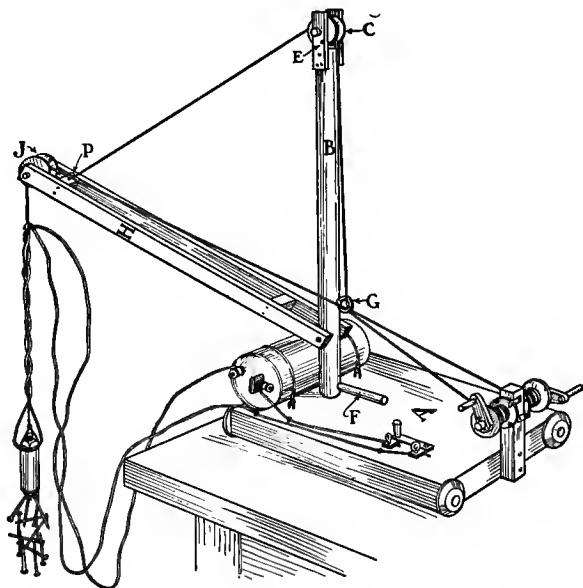
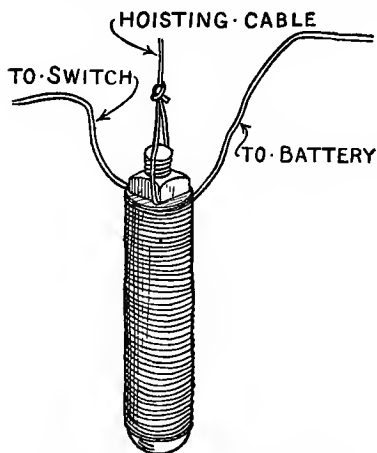

FIG. 267. — An Electro-Magnet Derrick. (See Frontispiece.)
FIG. 268. — The Electro-Magnet. (For details see Figs. 253-255.)
An **Electro-Magnet Derrick** like the one shown in Fig. 267. (See also photograph in *Frontispiece*.) Lots of fun
The **Electro-Magnet** is shown in Fig. 268, and Figs. 253 to 255, page 143, show details for making it. One end of
(A, Fig. 267). The *mast* (B) is a piece of broom-handle or curtain-pole 16 inches long, and fits loosely in a hole bored in the base. Figure 269 shows a detail of the mast. The *pulley* upon its upper end (C) is made of two spool-ends nailed together (Fig. 270), and it turns upon the axle D, which slips through holes in the *plates* E nailed to the end of the mast. The *lever* F sticks in a hole in the mast, close to the platform. This is used to swing the *boom* from side to side. Screw-eye G is placed several inches above F to serve the purpose of a pulley to guide the hoisting cables.
cut axle *M* enough smaller than the spool drums *N* so they will turn easily. Fasten a crank and handle to one end of each spool, and drive a brad through each end of the axle to prevent the drums from sliding off. Cut four notches in the inner flange of each spool, as shown, and pivot the catches *O* to the post *L*, in the positions indicated, so they may be thrown into the notches to lock the windlass (Fig. 267).
The Hoisting Cables should be made of strong cord. Fasten one end of the cable for raising the boom to a nail (*P*, Fig. 267), and run this cord up and over the mast pulley, then down through screw-eye *G* and over to one drum; tie it securely to the drum so it will not slip around. The other cable should be fastened between the nut and washer of the magnet, as shown in Fig. 268, run up and over the boom pulley *J*, then through screw-eye *G*, and tied to the second drum.
Figure 267 shows how the dry-cell may be strapped to the base board in front of the mast, and how the wires that connect the electro-magnet, switch, and cell should be twisted around the hoisting cable, part way, and the